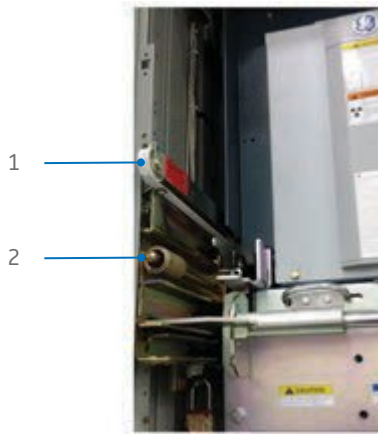

Figure 21: SecoVac R “DISCONNECTED/TEST” and Racking Position Indicator
- When racking the breaker from “DISCONNECTED/TEST” to “CONNECTED” position, it is recommended to keep the door closed and secured, using the proper racking handle. Make sure the breaker is in the OPEN position and the locking levers are properly locked (as described in section 8, Figure 8), insert the racking handle onto the switchgear racking shaft (Figure 21, 2) push in and rotate the handle counterclockwise until the position indicator (1) shows “CONNECTED” position (about 60 rotations).